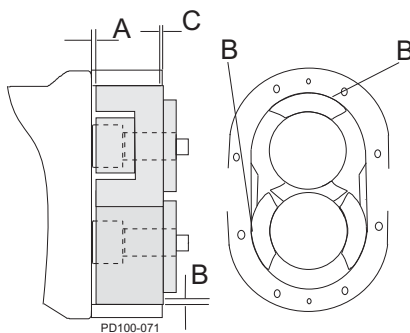

Figure 87 - Measure Clearance
9. Measure the rotor backface clearance (Figure 87, item A) through the port or from the front. The backface clearance for both rotors must be the same to prevent rotor crossover contact and must be ± 0.0005 " of the value found in Table 5, "Rotor Clearances," on page 48.
10. Check the rotor front face clearance (Figure 87, item C).
11. Check the rotor to body clearance (Figure 87, item B).